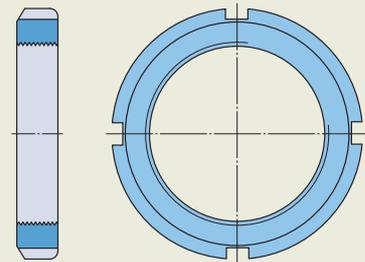
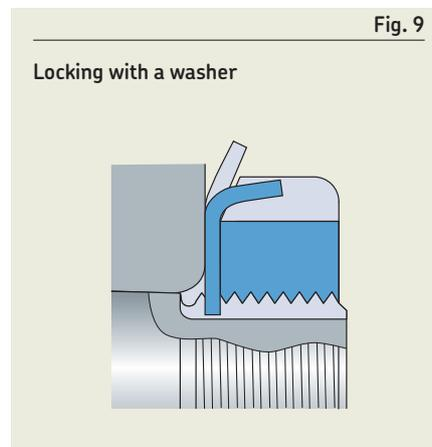

Fig. 3
Fig. 9
- can be locked with either the MB lock washer (fig. 3) or with a stronger, MB .. A lock washer
- using a W lock washer (fig. 3) are available up to and including size 44 (thread diameter 8.628 in.)
- Lock washers (fig. 3, page 1093) engage a keyway in a shaft, or adapter sleeve thread. The washer locks the nut in position when one of the washer tabs is bent into one of the slots on the nut's outside diameter (fig. 9).